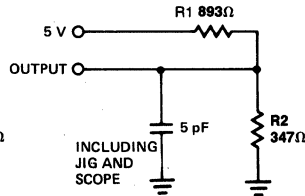

Figure 2
- tHZOE, tHZCE, and tHZWE are specified with CL = 5 pF in Figure 2. Transition is measured ± 500 mV from steady state voltage.